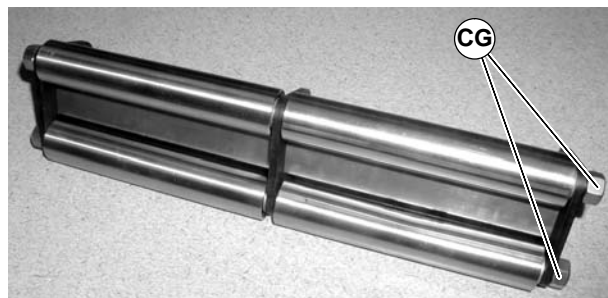

Figure 68
5. Remove hex nuts (CG of Figure 68).